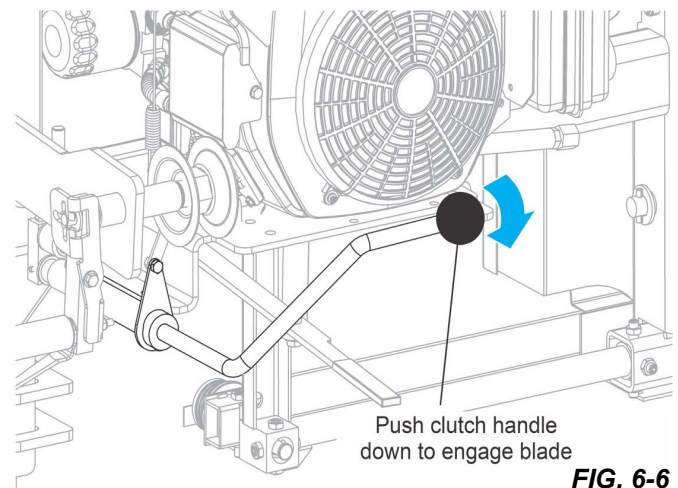

FIG. 6-6
3. Pull the lever toward you to move the arm in; push the lever away from you to move the arm out. See FIG. 6-6.
The clutch lever is located next to the engine. See FIG. 6-6.
The blade height scale includes a blade height indicator, an inch scale, and a magnetic quarter scale. See FIG. 6-6.